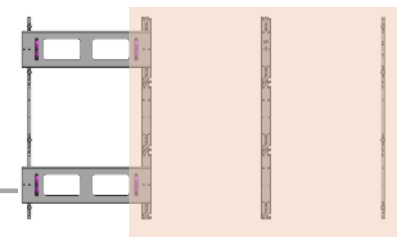
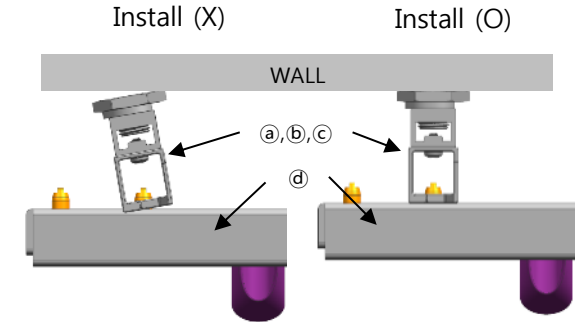

Fig.3 (Location of Components)
Fig4. Maintain the Parallel Frame
- ※ Third, fasten the ⑥ ASSY BRACKET MIDDLE using Screws. [Fig.3]
- ※ Warning. ①, ② and ④ sides should be attached,
and the three(3) sides of Wall/ ①, ② side/ ④ side should be parallel.[Fig.4]